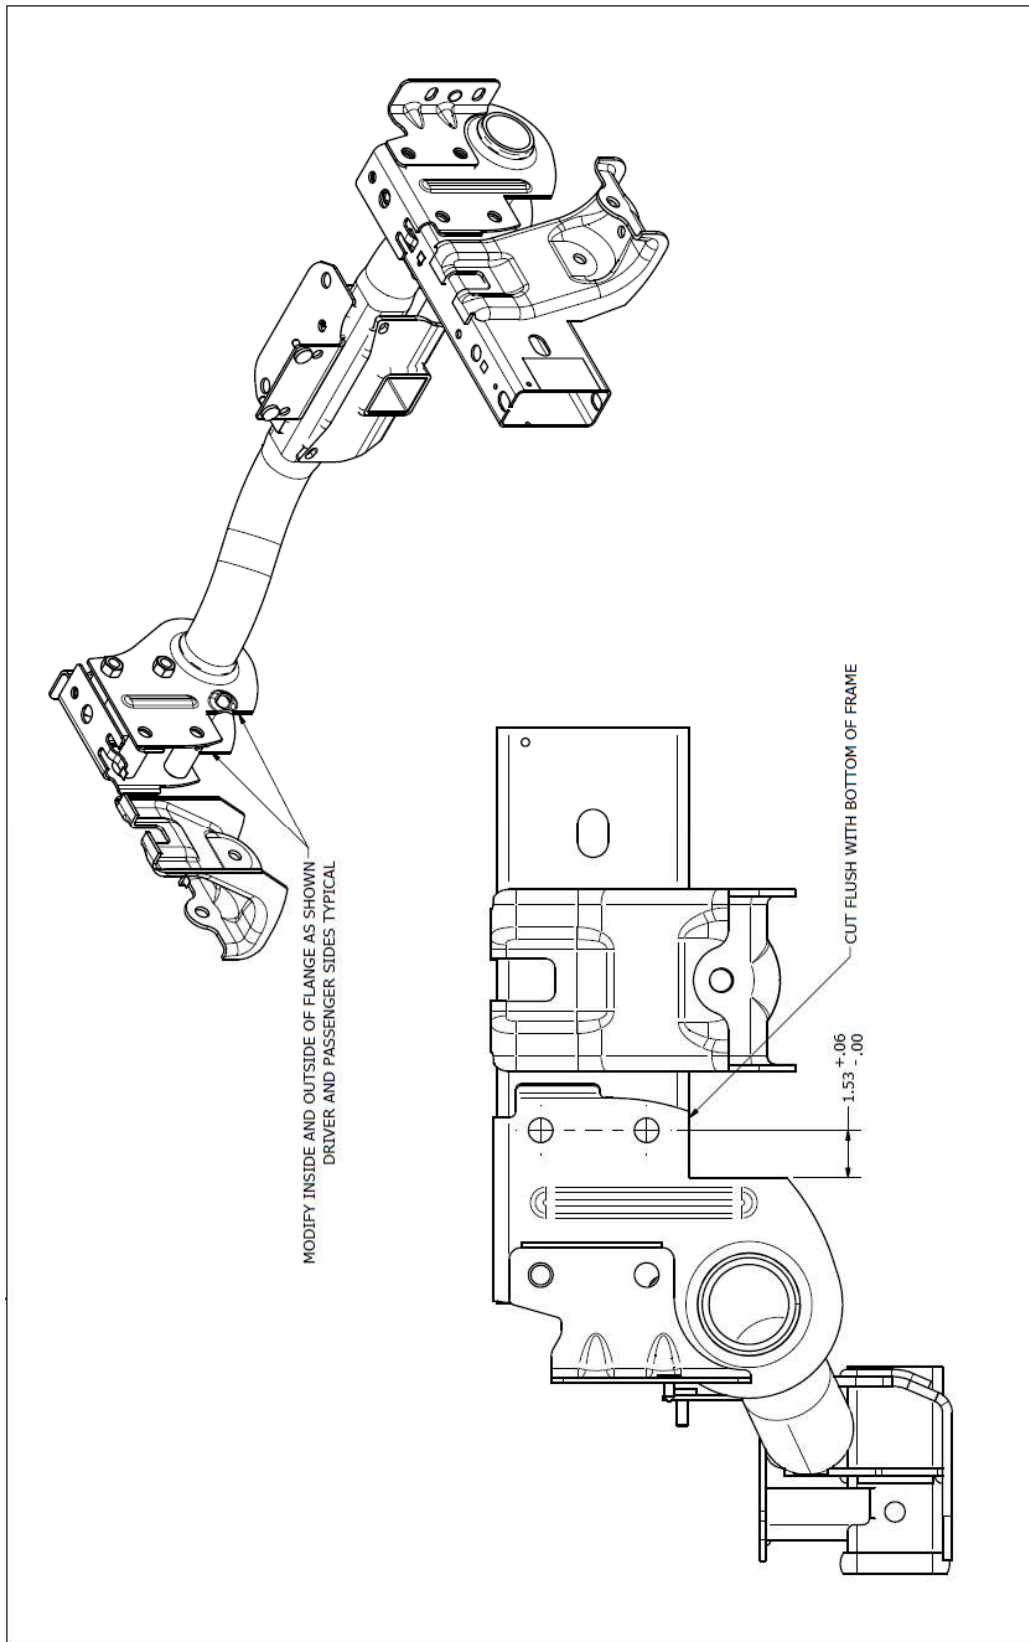

Figure 1 (3500)
5. Modify the tow hitch mounting brackets as shown. (Figure 1)